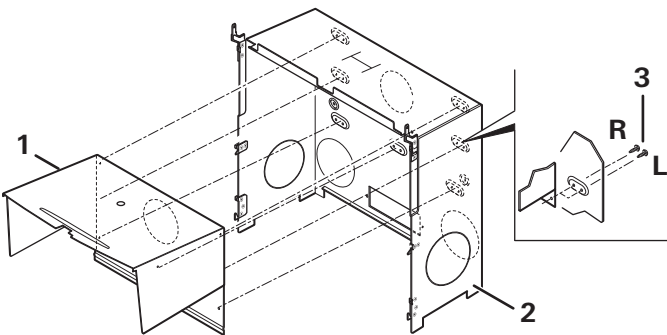

Fig. 12
- ▶ **S 5004:** Secure the installation box interior part (Fig. 12-1) using 7 3.5 x 9.5 mm self-tapping screws (Fig. 12-3) to the installation box exterior part (Fig. 12-2). Note the right- (Fig. 12-R) or left-hand installation (Fig. 12-L) of the S-heater.